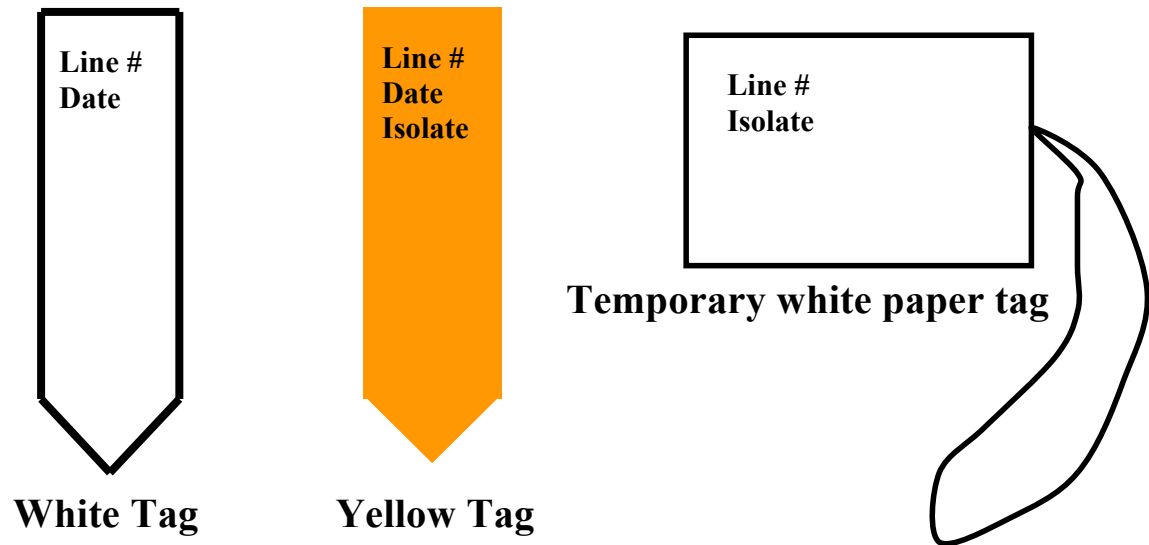

Figure 1. Labelling of tags.
- Verify results against DNA molecular weight markers (MW) and the positive and negative controls. This indicates the absence or presence of the loci (Figure 1).
Figure 1. Agarose gel electrophoresis of PCR amplified DNA associated *I-2 gene* detection in tomato. Controls include homozygous (resistant Race 2 (*I₂I₂*) lines), lanes 2 and 4, negative (no *I-2 gene*) lanes 3 and 5, and heterozygous (*I₁I₂*) lanes 6-10. Lane 1 is the un-cut amplified DNA of approximately 902 bp. Two DNA patterns are possible:
1. Check that all pots are correctly labeled with a white tag indicating the line and the date the seed was sown (e.g. No.12, 22/7/44) (Figure 1).